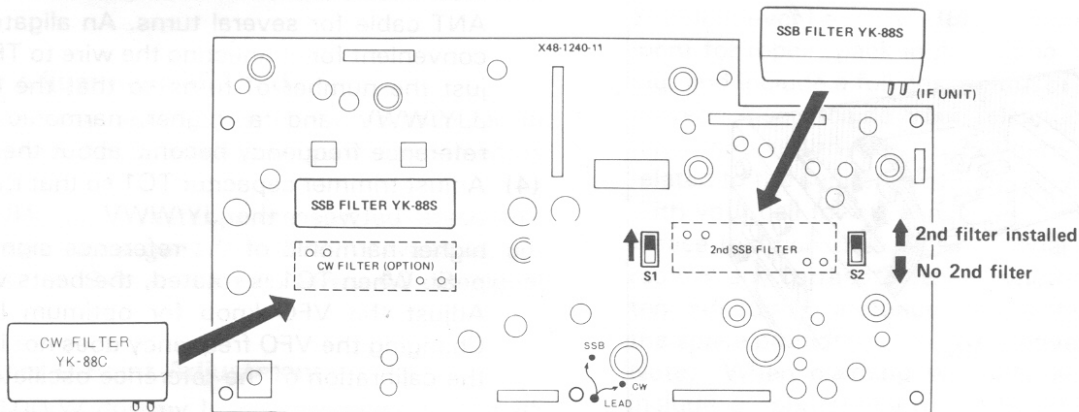

Fig. 5-6 Installing the Optional CW and/or SSB Filters
INSTALLING THE CW FILTER YK-88C (Fig. 5-6)
5. Change the position of the preset switches as shown in Fig. 5-6.